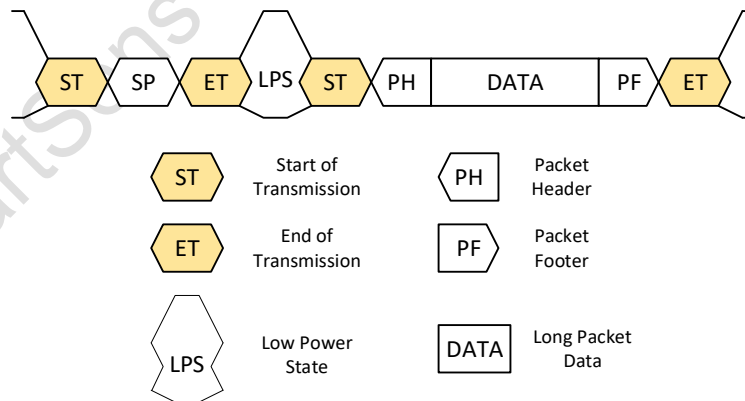
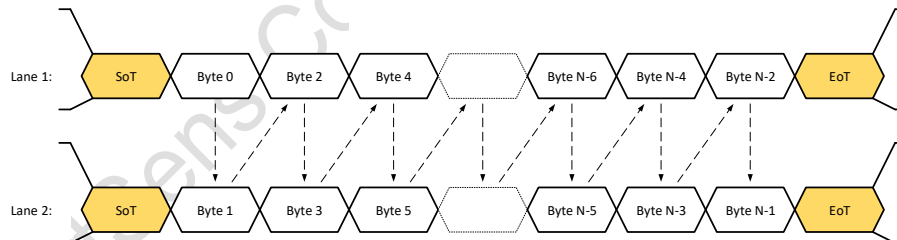
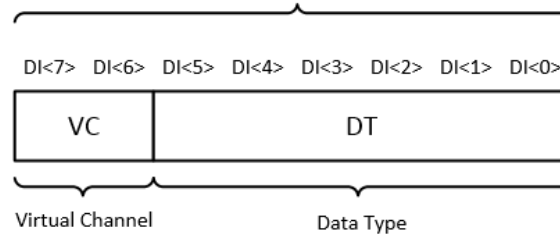

Figure 1-9 MIPI data packet
Figure 1-11 MIPI 1/2-lane data package transmission diagram
Figure 1-12 MIPI data packet DI structure
Figure 1-9 is a brief diagram of an MIPI low level data packet, showing the transmission process of a short packet and a long packet. Figure 1-10 shows MIPI data packet structure diagrams for long and short packets. The Data Identifier (DI) is used to distinguish different packet types. Figure 1-11 shows the data packet transmission diagram of MIPI working in 1/2 lane. In Figure 1-12, DI consists of two parts, Virtual Channel (VC) and Data Type (DT). By default, the VC value of MIPI data given by this chip is 0, and the DT values are shown in Table 1-7.